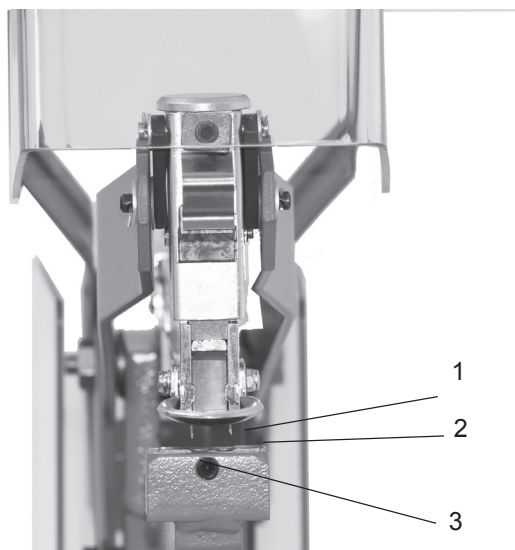

Fig. 14
- Press down a staple (Fig. 14/1) by hand until the staple legs are visible or insert a single staple into the canal.
- Move the staple head down towards the anvil (Fig. 14/2) and check that the staple legs hit the anvil symmetrically.
- If necessary, loosen the screw (Fig. 14/3) and centre the anvil to the staple. Remember to tighten the screw after adjustment.